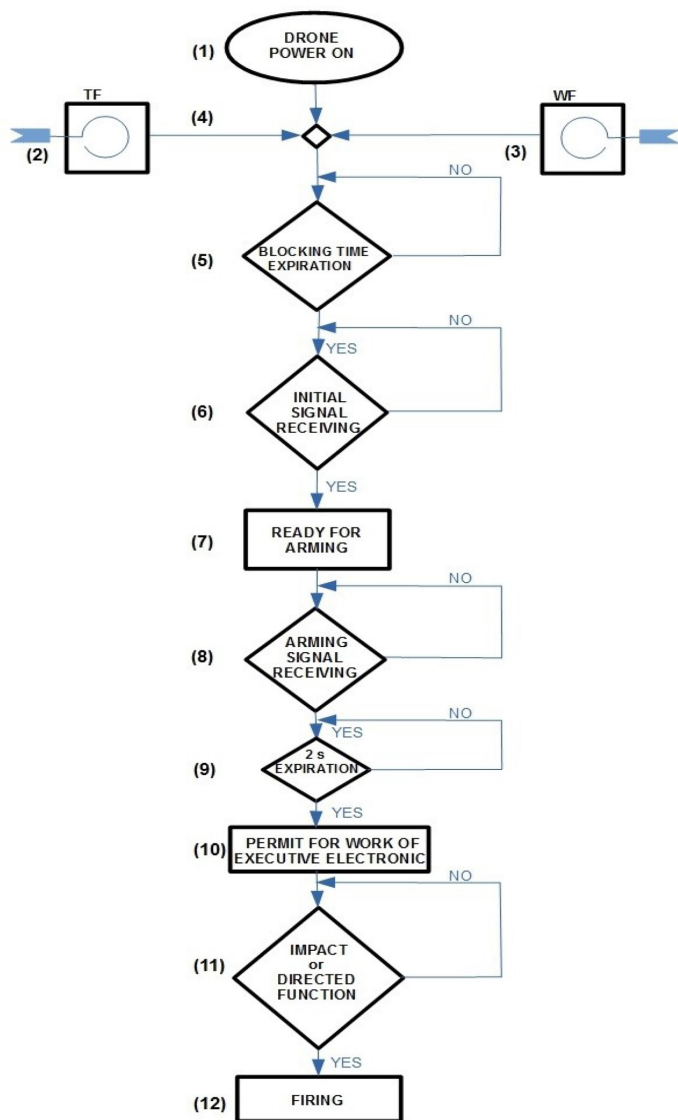

Figure 2. General working principles
2.2.2. General working principles (Figure 2.) :